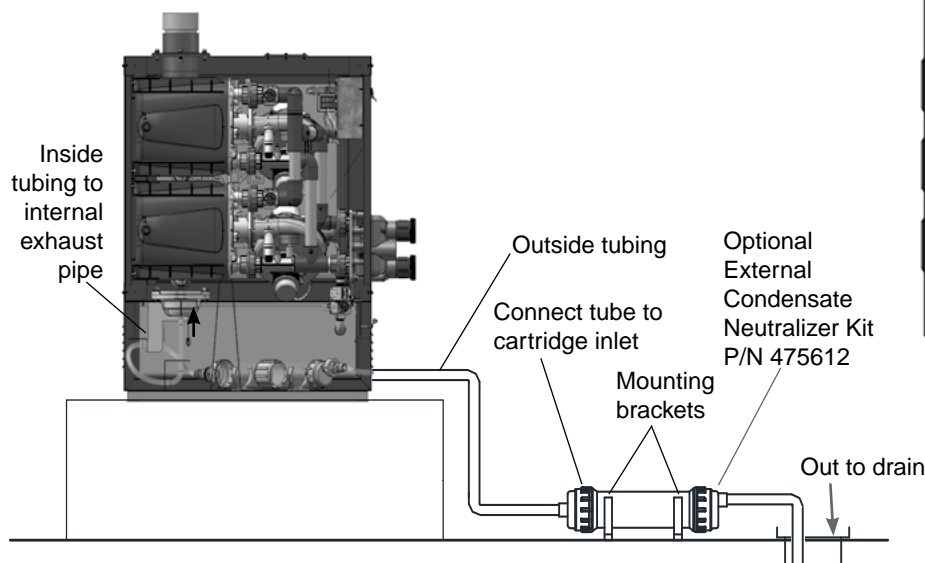
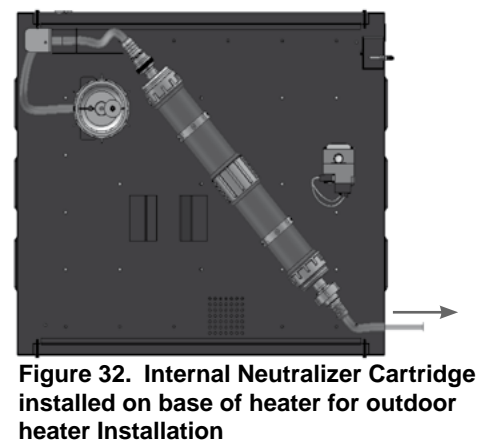

Figure 31. External Neutralizer Cartridge for indoor heater Installation
Figure 32. Internal Neutralizer Cartridge installed on base of heater for outdoor heater Installation
3. **Indoor Heater Installation (Figure 31):** Mount the neutralizer cartridge on the floor near the side of the heater. **Outdoor Heater Installation (Figure 32):** Using the provided brackets, secure the neutralizer cartridge onto the heater base.
**TIME CLOCK/FIREMAN'S SWITCH (See Figure 31 above):**